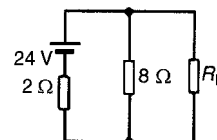

Figure 13.86
- 2 Determine the value of the load resistance R_L shown in Fig. 13.86 that gives maximum power dissipation and find the value of the power. [$R_L = 1.6\ \Omega, P = 57.6\text{ W}$]